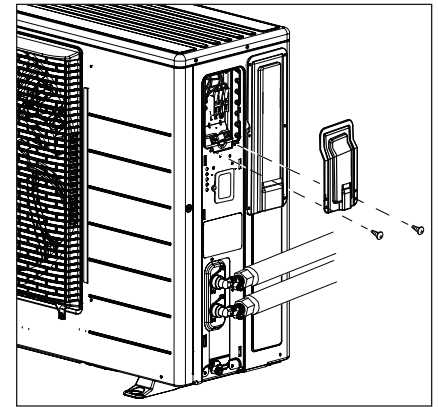

Figure 22 - Remove the second cover to gain access to the electrical board.
- 5** With primary cover removed and secondary cover exposed, use a Phillips screwdriver to remove the two screws securing the secondary cover to the unit and remove the cover. See Figure 22.